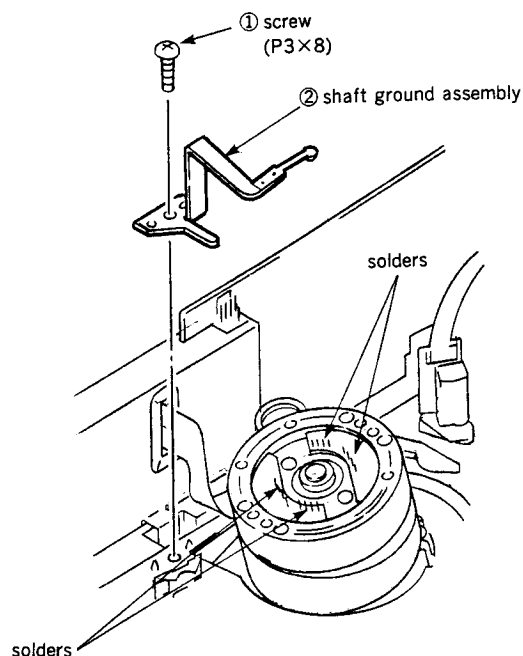

Fig. 2.
- 4) Solder 16 points on the rotary upper drum board. (See Fig. 2.)
- 5) Fix the shaft ground assembly ② using the screw ① (P3×8) so that the protrusion of the shaft ground assembly end contacts the center of the drum shaft, (See Fig. 2.)